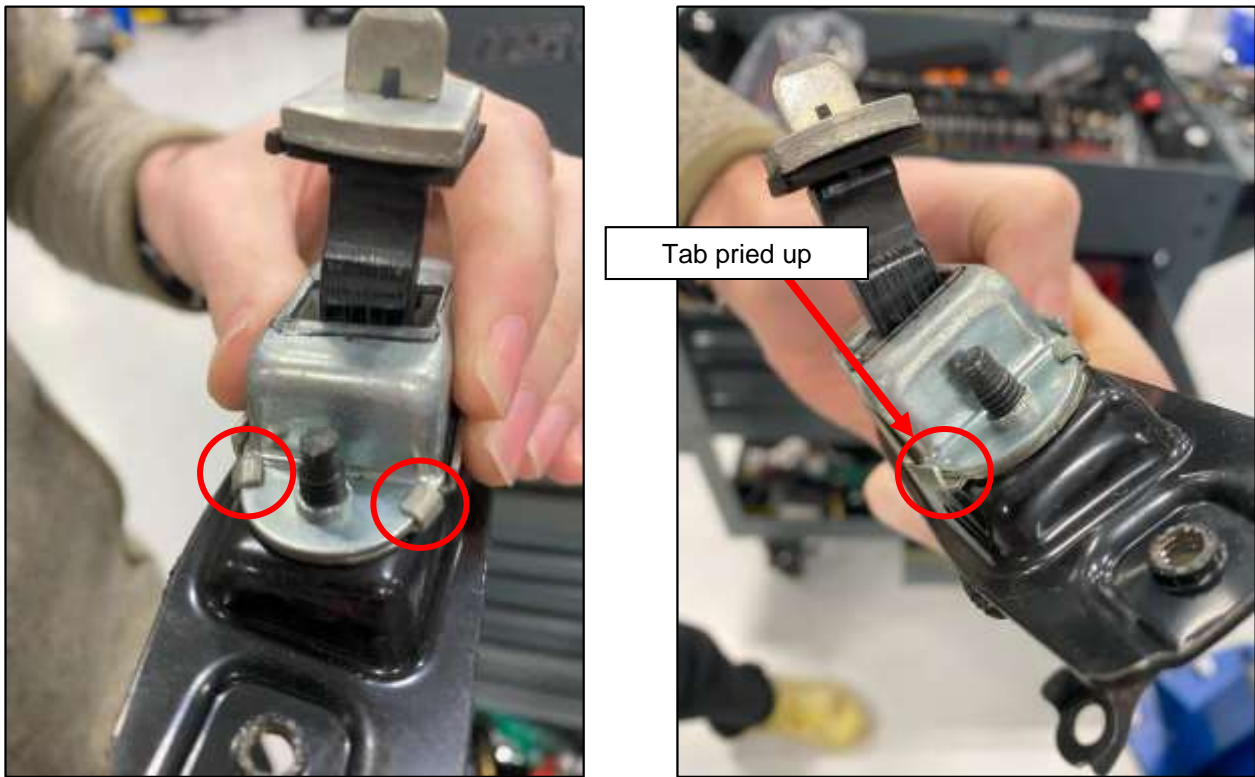

Figure 102
2. Using Pliers, pry up the (4) four tabs that secure the (2) two plates together. *Figure 102.*